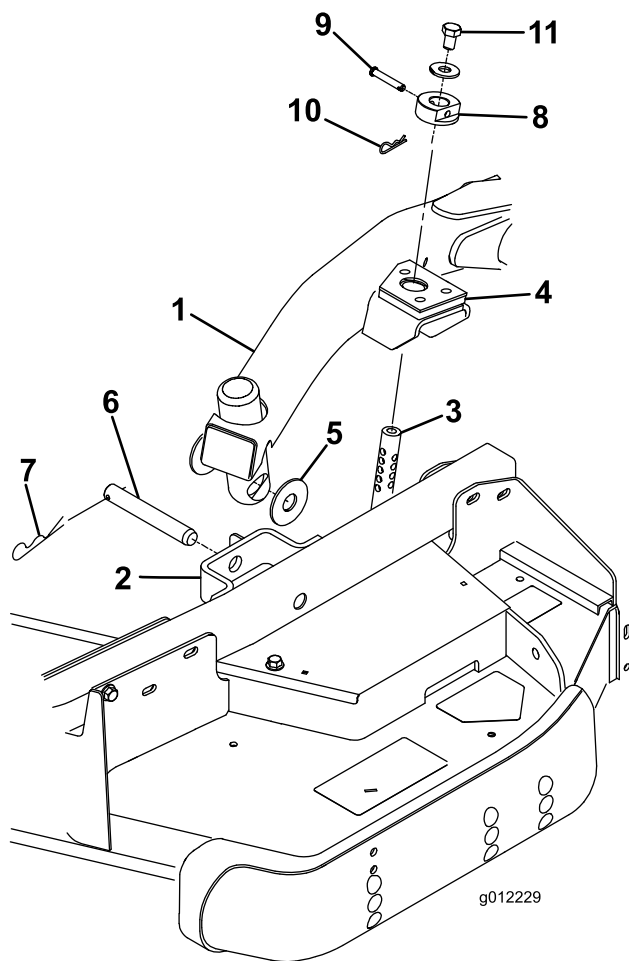

Figure 26
holes in the castor arm bracket and the height of cut rod can be inserted into the lift arm pads (Figure 26).
5. Secure the lift arm to the castor arm with (2) thrust washers, a clevis pin and a hair pin cotter. Position the thrust washers between the lift arm and the castor arm bracket (Figure 26). Insert end of cotter pin into the slot in the castor arm tab to retain cotter pin.
9. Install the height of cut collars onto the height of cut rods and secure with the clevis pins and hair pin cotters (Figure 26). Head of clevis pin to be positioned toward the front of the deck.
10. Install a 1/2 x 3/4 inch bolt and a washer to top of each height of cut rod (Figure 26).